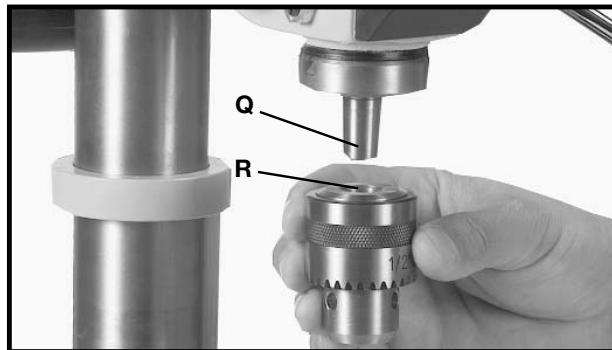

Fig. 15
10. IMPORTANT: Make certain the spindle taper (Q) Fig. 15, and tapered hole in chuck (R) are clean and free of any grease, lacquer or rust preventive coatings. **NOTE:** Household oven cleaner can effectively remove any substance from the spindle and chuck; however, carefully follow the manufacturer's safety rules concerning its use.